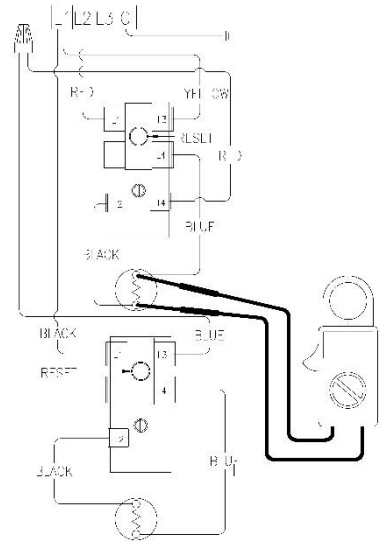

Figure 19
5. Check across element terminals (see Figure 19).